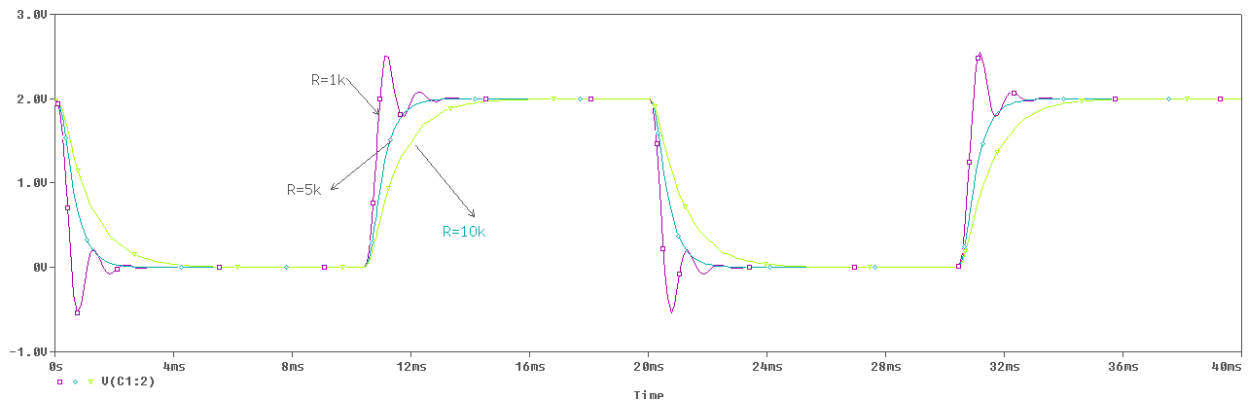

Fig 5.7: Simulation Results.
- 7- Go to  (Simulate) in order to run the circuit simulation, the result will be 3 traces on the same plots since the value list for R is 1k, 5k, and 10k. The result is shown in fig 5.7.